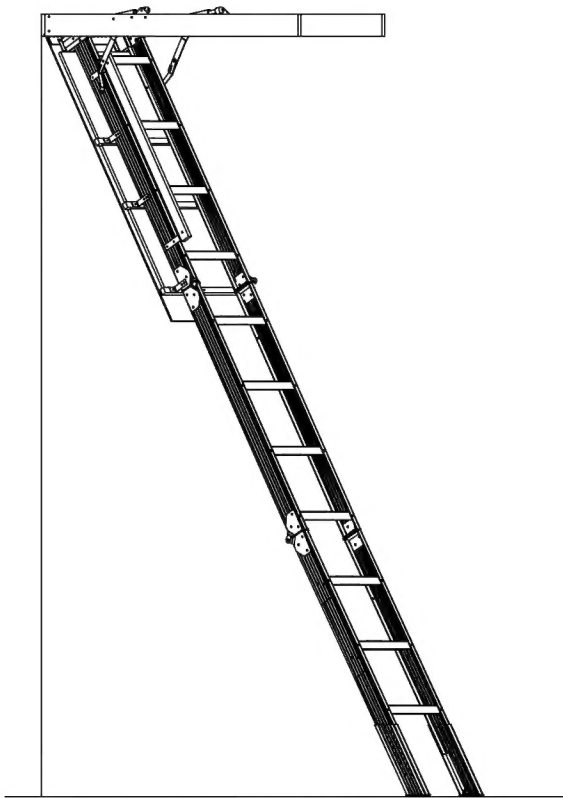

Figure 8
13. Open the attic ladder, unfold the sections so the ladder looks like Figure 8.